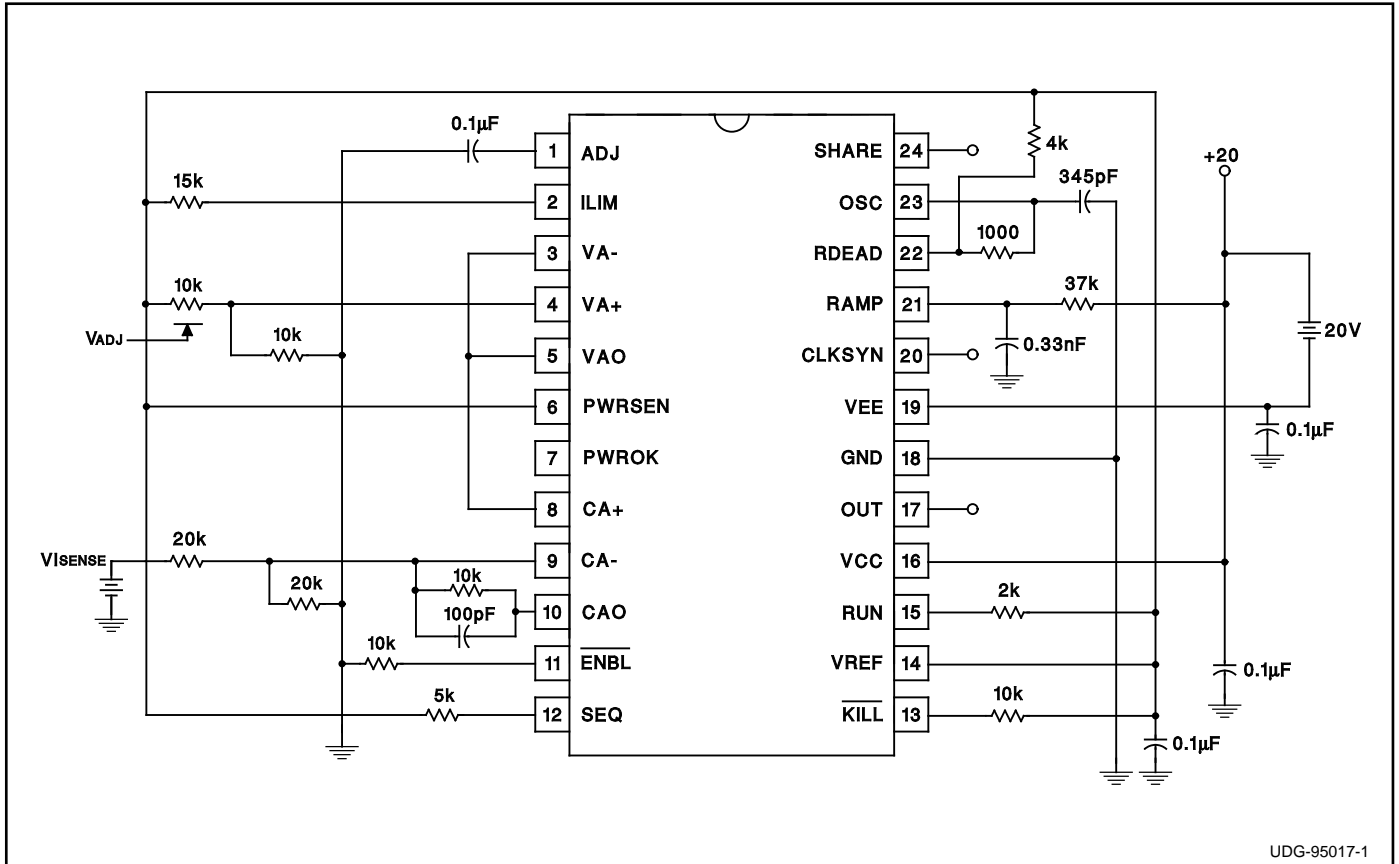
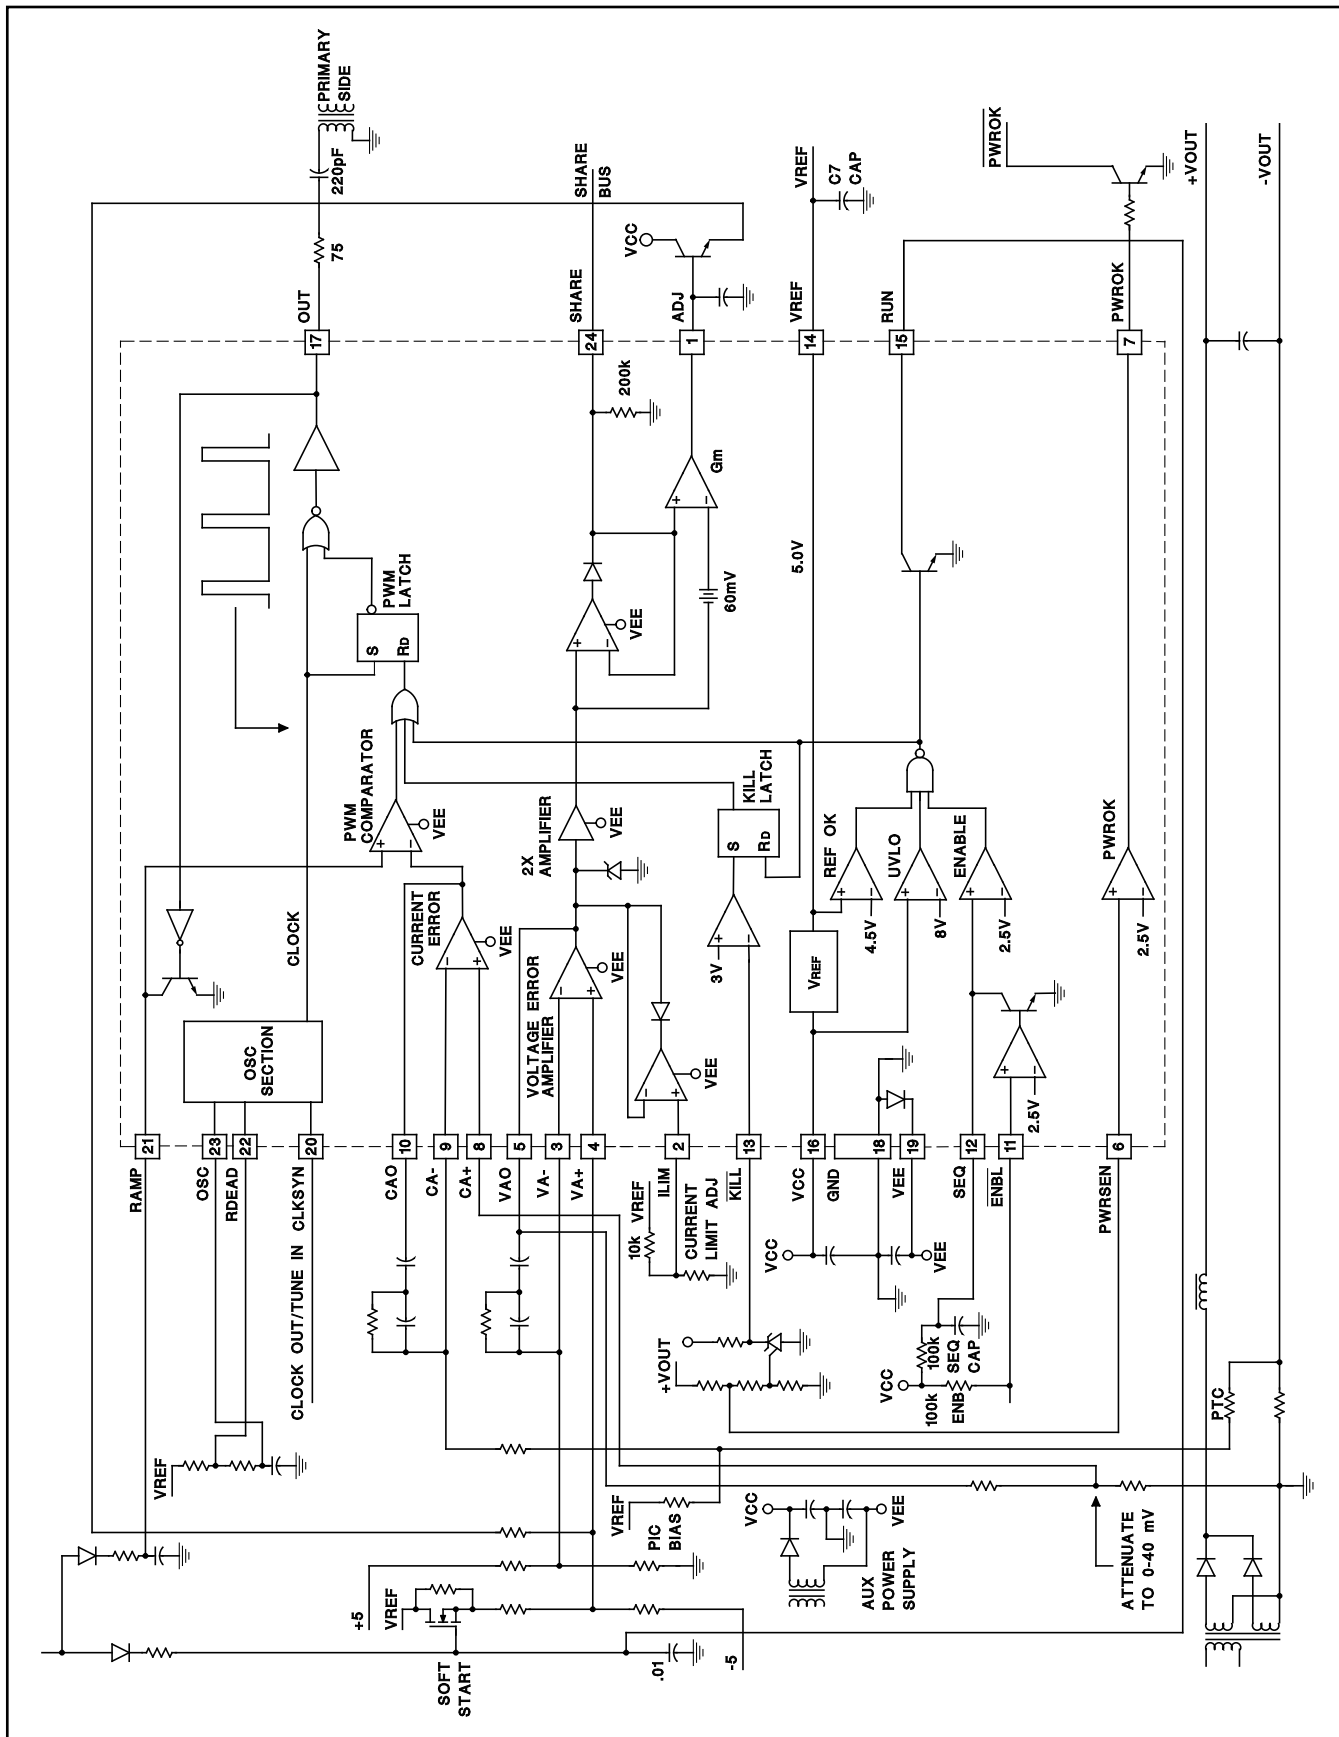

Figure 7. Open Loop Circuit
Figure 8. UC1826 Application Diagram
**Design Example:** Figure 7 is an open loop test that lets the user test the circuit blocks discussed without having to build an entire control loop. The pulse width can be varied by either the VADJ or the VISENSE inputs. Figure 8 shows an isolated power supply using the UC1826 secondary side average current mode controller.